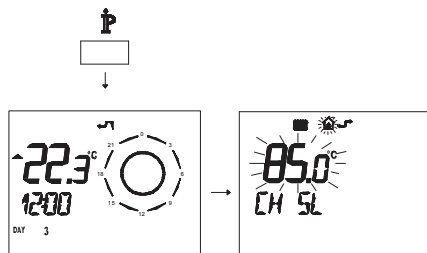

Fig. 7.22
- Press button **IP** for more than 3 seconds to enter in **INFO** (Fig. 7.22) mode.